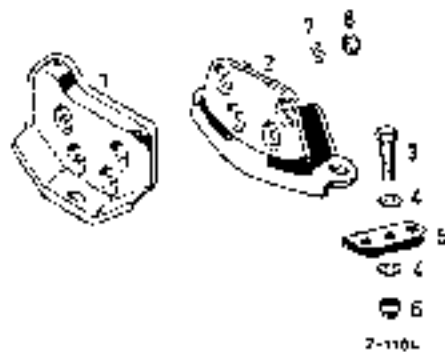

Fig. 24-1/3
On Model 190SL 3 washers are used on either side, but on this model washer (5) is 10 mm thick instead of 3 mm (see Fig. 24-1/2).
Models 180 a, 180 Df, 190 D, 190 Db have a perforated insert (5) as a standard part (Fig. 24-1/3).